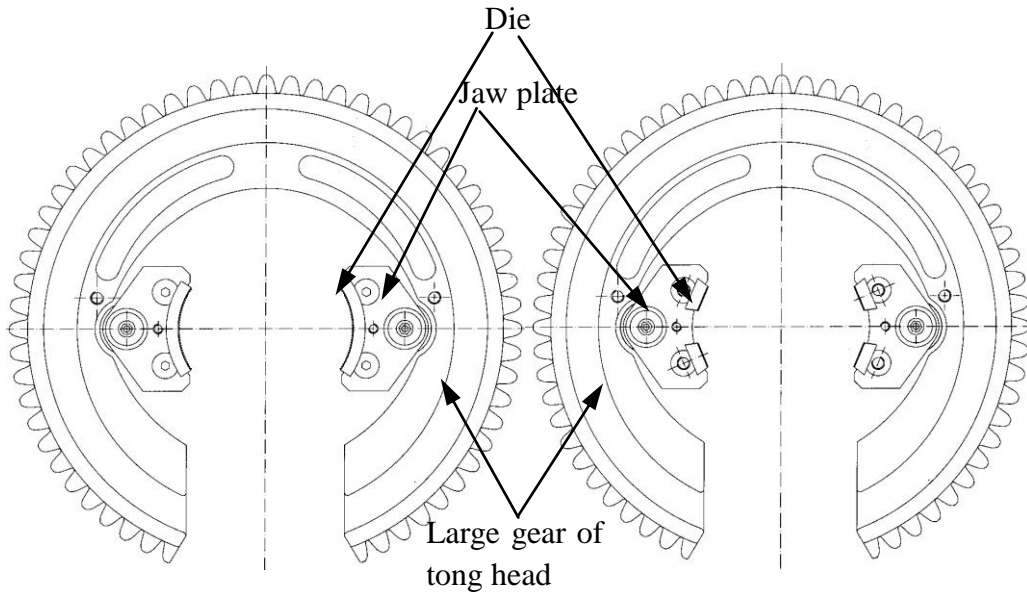

Figure 2 Tong head and jaw plate of the master tong
1. Understanding of jaw plate, tooth blocks specifications: power tongs main forceps jaw plate has 6 kinds of specifications, back jaw plate has seven kinds of specifications, main clamp each kind of specification the two jaw plate; back clamp each kind of specification jaw plate the three jaw plate, contains two front jaw plate and a jaw plate (see Figure 2 and 3), which two front jaw plate is the same, on the left and right sides can be installed. When installing the jaw plate, it is necessary to check whether the tooth block is worn and clean.